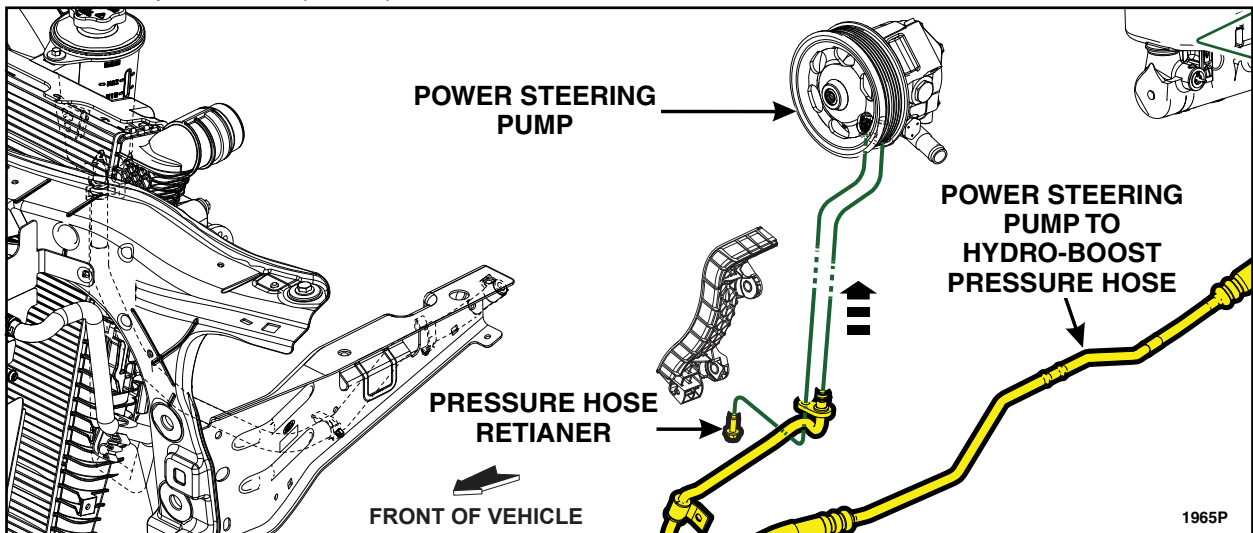

FIGURE 17
11. Connect the *new* power steering pump to Hydro-Boost pressure hose at the power steering pump and install the retainer. See Figure 17.